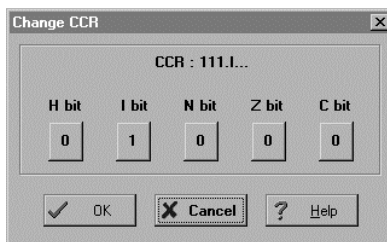

Figure 6-14. The *Change CCR* Dialog
- To change the CPU accumulator (ACCA), index register (XREG), and program counter (PC) values from the CPU window, click on the value and enter the new value in the dialog. Press *OK* to close the dialog and save the new value.
- To change the CPU CCR values, double click the CCR value in the CPU window to open the *Change CCR* dialog (Figure 6-14). Change the H, I, N, Z, or C CCR bits by pressing the button below each to toggle condition code register bits between 1 (on) and 2 (off). Press *OK* to close the dialog and save the values.